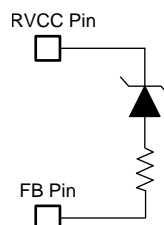

Figure 8. Circuit I to Avoid Optocoupler Saturation
1. Add a Zener diode and a series resistor between the RVCC pin and FB pin as shown in Figure 8. The Zener diode voltage should be selected as RVCC typical voltage minus FB typical voltage. In normal operation, there will be very little current flowing through the Zener but when FB voltage begins to decrease, it will provide extra current to prevent FB voltage drop. For example, a 6.1-V Zener diode and 10-k $\Omega$  resistor is used in the UCC256301 EVM.